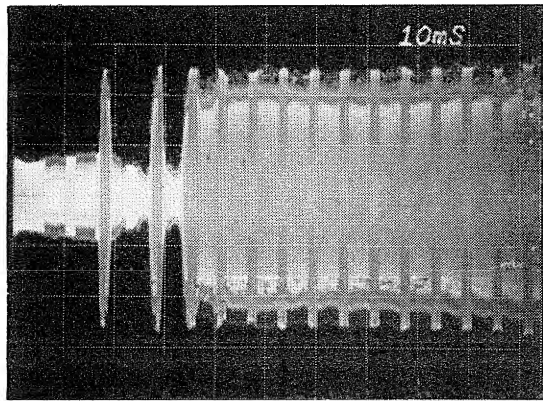

FIGURE 4 HEAD LOAD ACTUATOR TIMING
- e. Energize the Head Load solenoid and observe the read signal on the oscilloscope. The signal must be at 50% of full amplitude by 35Msec. Reference Figure 4.